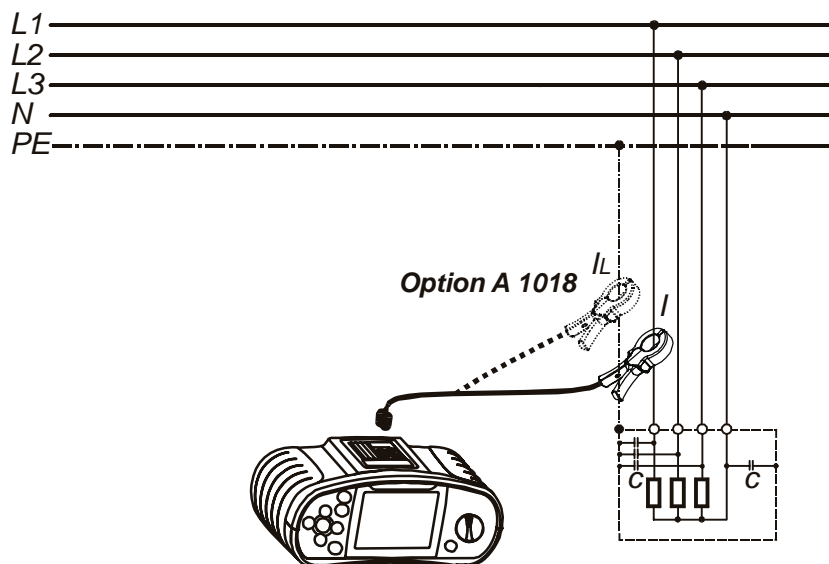

Figure 5.53: Connection diagram
Step 3 Follow the connection diagram shown in Figure 5.53 to perform TRMS current measurement. Use the **Help** function if necessary.